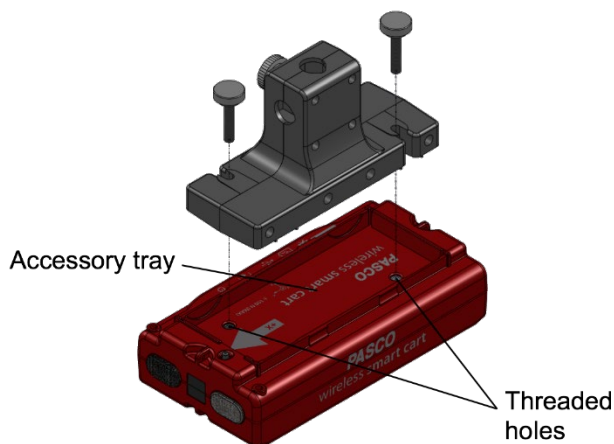

Figure 1. Place the adapter in the Smart Cart accessory tray.
2. Place the adapter in the accessory tray of the Smart Cart (Figure 1).